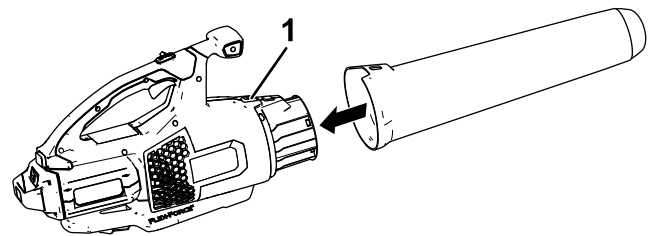

Figure 3
2. Slide the blower tube onto the blower housing. You may need to press down on the tube latch for the blower tube to lock into place (Figure 3).
3. Grasp the handle and push the battery pack into the handle until the latch locks into place (Figure 3).